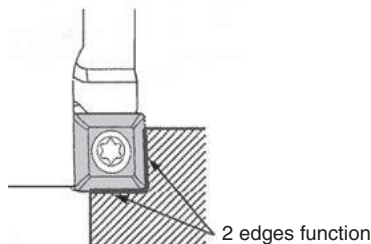

Fig.1
• When shouldering, both side edge and bottom edges function. Both edges wear at the same time depending on ap. The insert uses 2 edges instead of 4. (Ref. to Fig.1)